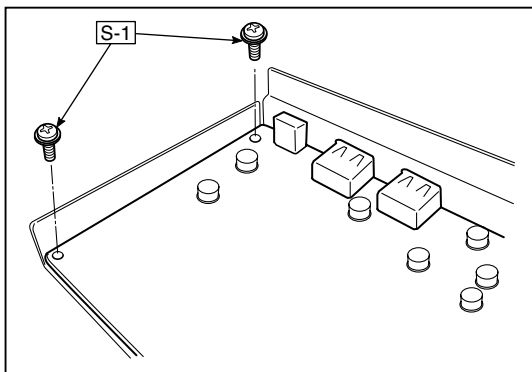

Fig.4
4. Remove the "S-1" screw shown in the figure 4 and then remove the Main Board Assy from the Main Board Shield.